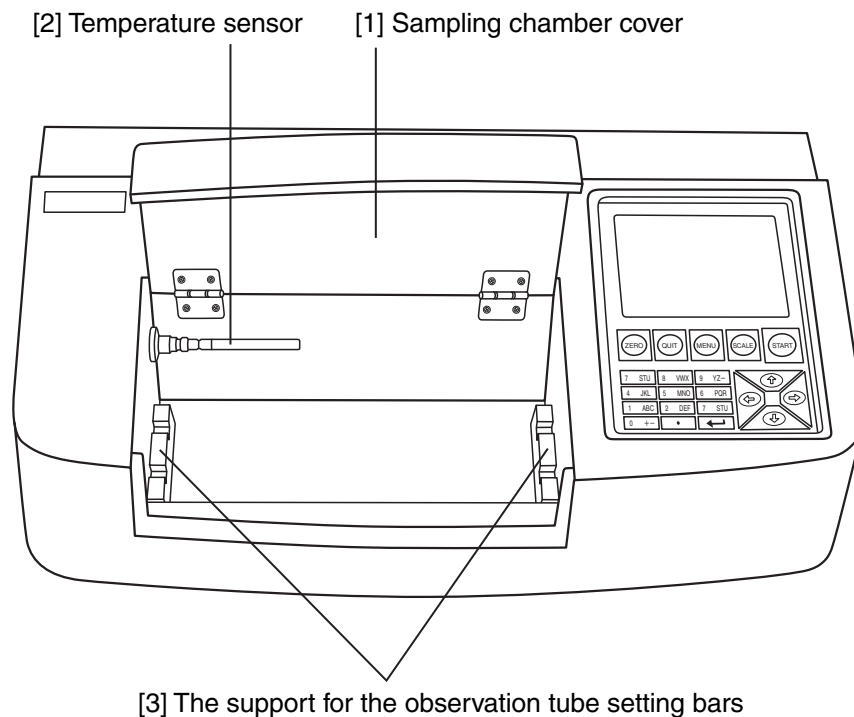

Fig. 3-3
(2) The Sampling Chamber (Fig.3-3)